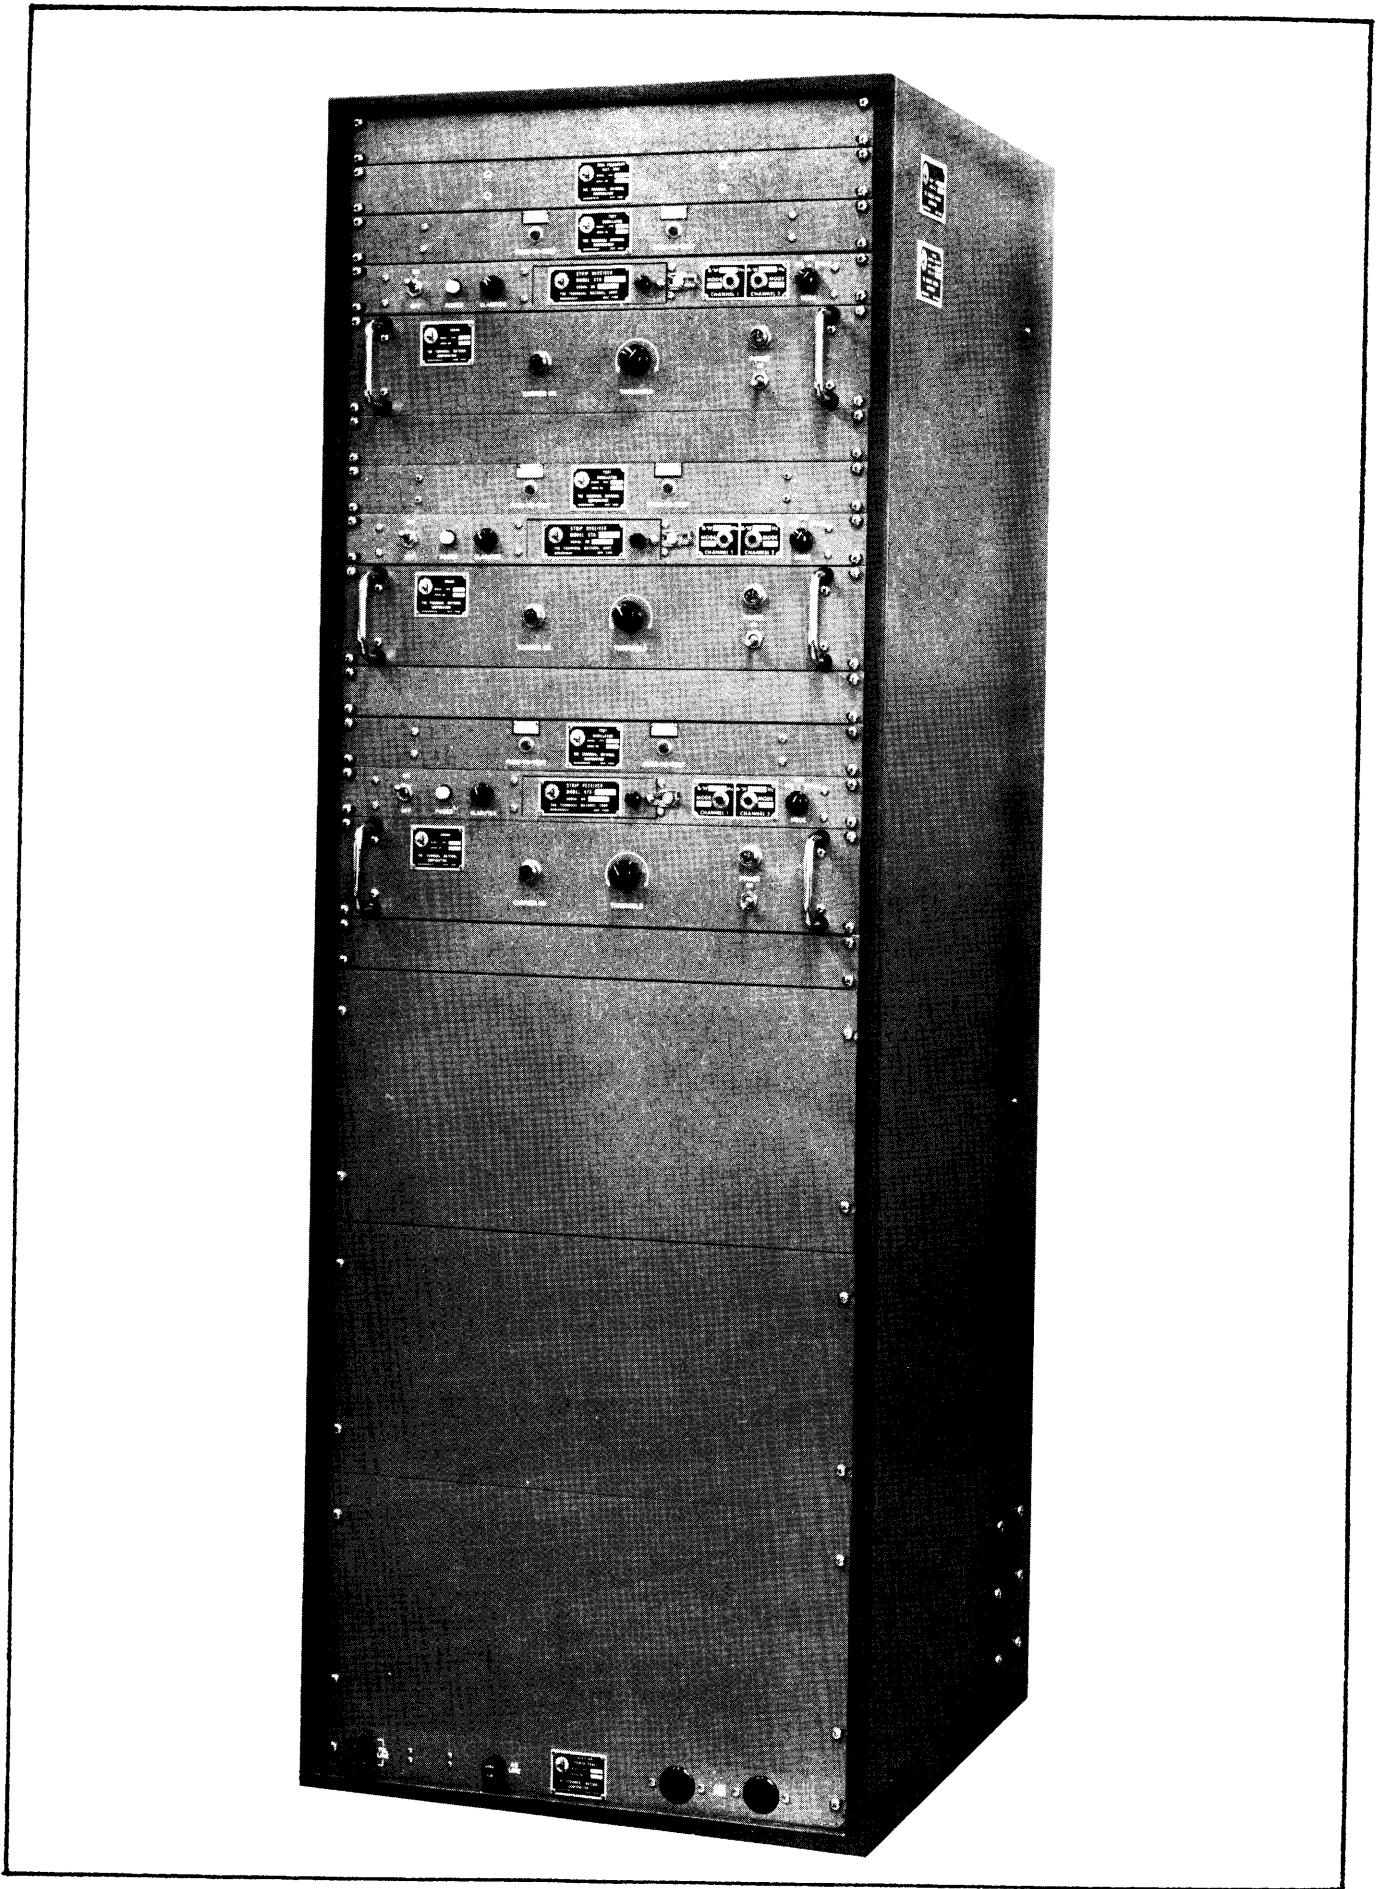

Figure 1-1. Codan Operated Receiver, Model COR-4B()
The CODAN Operated Receiver, Model COR-4B() (figure 1-1), is a transistorized, multi-channel, fixed tuned, 2 to 16 MHz (extended range to 32.0 MHz available on special order) receiving system designed for use in radio-telephone communications systems where received-signal quality is of prime importance. The COR-4B(1) is a single channel system. Each channel is independently operated and comprised of a receiver (STR), an anti-noise device (CDN), a test oscillator (RTO-1A) and part of an antenna distribution unit (HFD); refer to figure 1-2. The COR-4B(2) is a two channel system. The Antenna Distribution Unit Model HFD-1S will feed 1, 2, 3 or 4 channels. A COR-4B(4) requires one HFD-1S, four RTO-1A's, four STR-5A/U's, four CDN-3A's. Test circuitry incorporated in the COR allows the operator to check each channel's performance from a remote location (operator's site) or at the COR, if desired. Remote panel lamps may display power failure and channel activity; dry-contact keying circuitry (compatible with existing radio-telephone equipment) may be wired for remote indication. The COR operates on 115/230 vac power; in the event of ac failure, automatic and instantaneous conversion to battery power is achieved without interruption of service. It is recommended that a separate battery be used for each channel. The battery connections may be paralleled, if the battery supply is capable of handling the required current drain for the system. During ac operation, the battery supply is trickle charged.
in figure 1-1.
(1) The rack is to be fastened to a solid base and connected to the stations main ground system.
(2) Install the rack in a location so that approximately a two foot clearance is maintained; in the front to remove the units for maintenance, and in the rear in order to open the rear door for access to the rear of the units and terminal strips when the units are installed in the rack.
(3) If the units have been removed from the rack for shipment, reinstall them in accordance with figure 1-1 and 2-4.